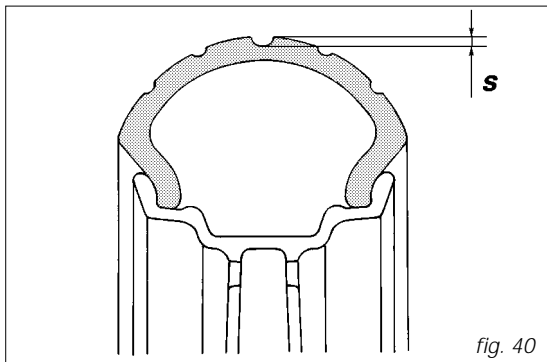

fig. 40
*Measure tread depth (S, fig. 40) at the point where tread is most worn down. It should not be less than 2 mm and anyway not below the legal limit.*